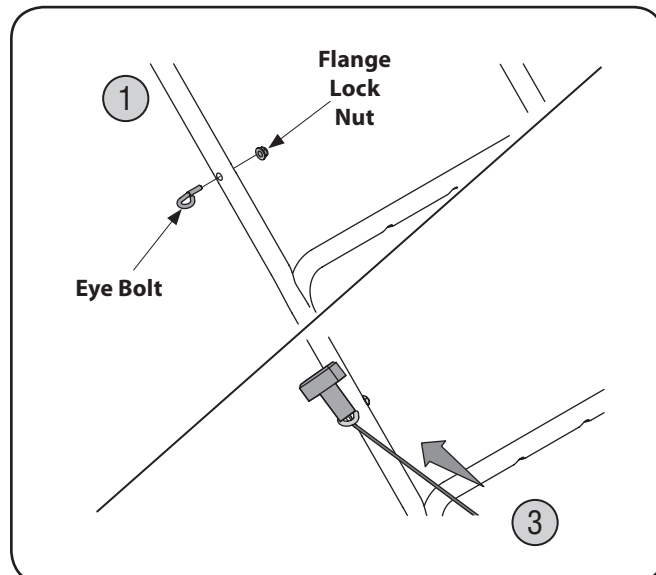

Figure 3-10
1. Attach the eye bolt to the upper handle and loosely thread the lock nut on to secure it. Do NOT tighten. See Fig. 3-10.
3. Loop the rope through the eye bolt. See Fig. 3-10.